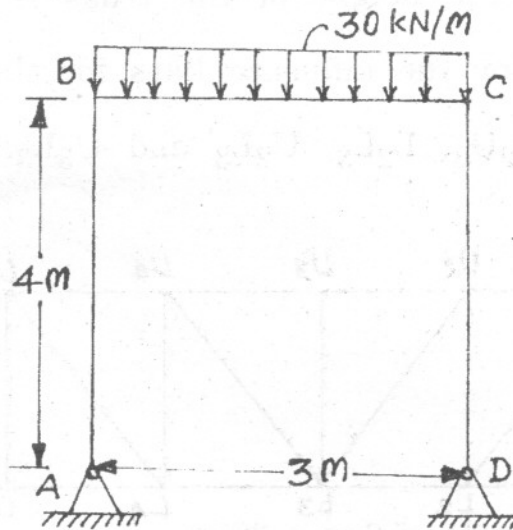

Fig. 10
- (b) Determine the end moment and draw the bending moment diagram for the portal frame as shown in Fig. 10 by moment distribution method. EI is constant. [8]